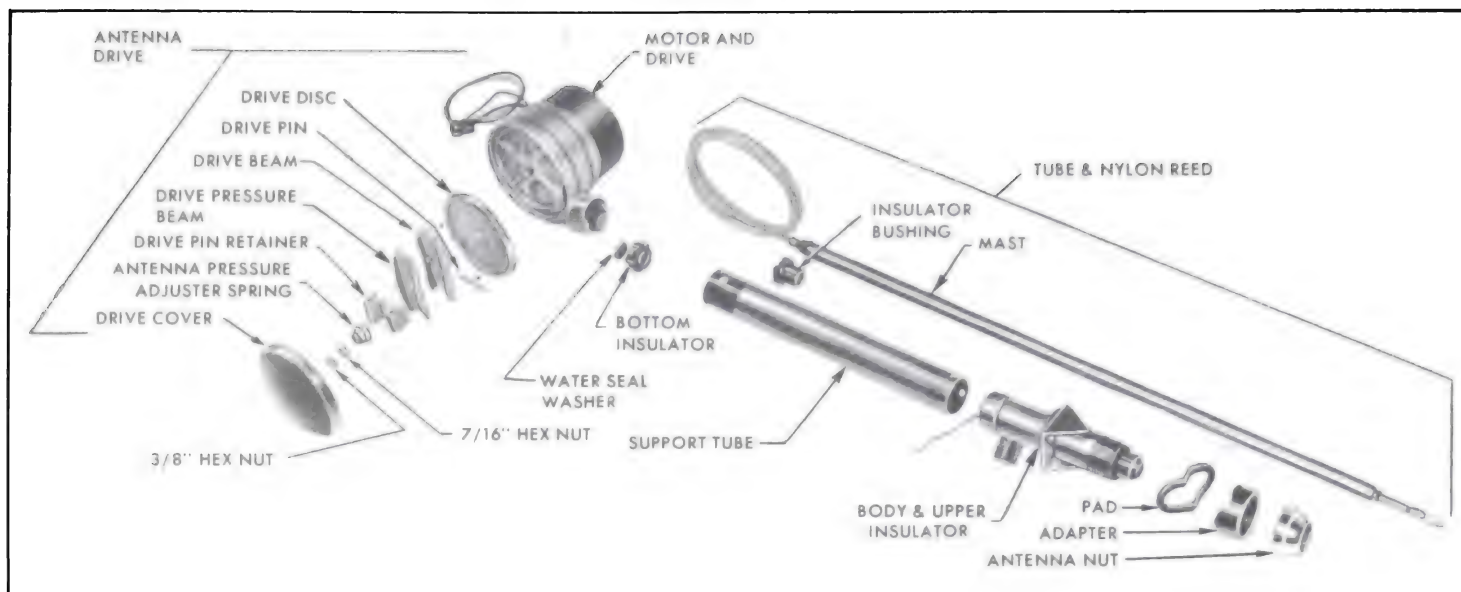

Figure 11-13—Electric Antenna (Exploded View) -4400, 4600 and 4800 Series
IMPORTANT: Before work is started on the antenna, determine if the antenna is in the warranty period which is 24,000 miles or two years, whichever occurs first. If the antenna is in warranty do not attempt service on components of the antenna drive (see Figure 11-13) as it will void the warranty.
1. Remove the 3 screws holding the body and upper insulator assembly to support tube (see Figure 11-13).
13. Lift antenna pressure adjuster spring off shaft (see Figure 11-13).